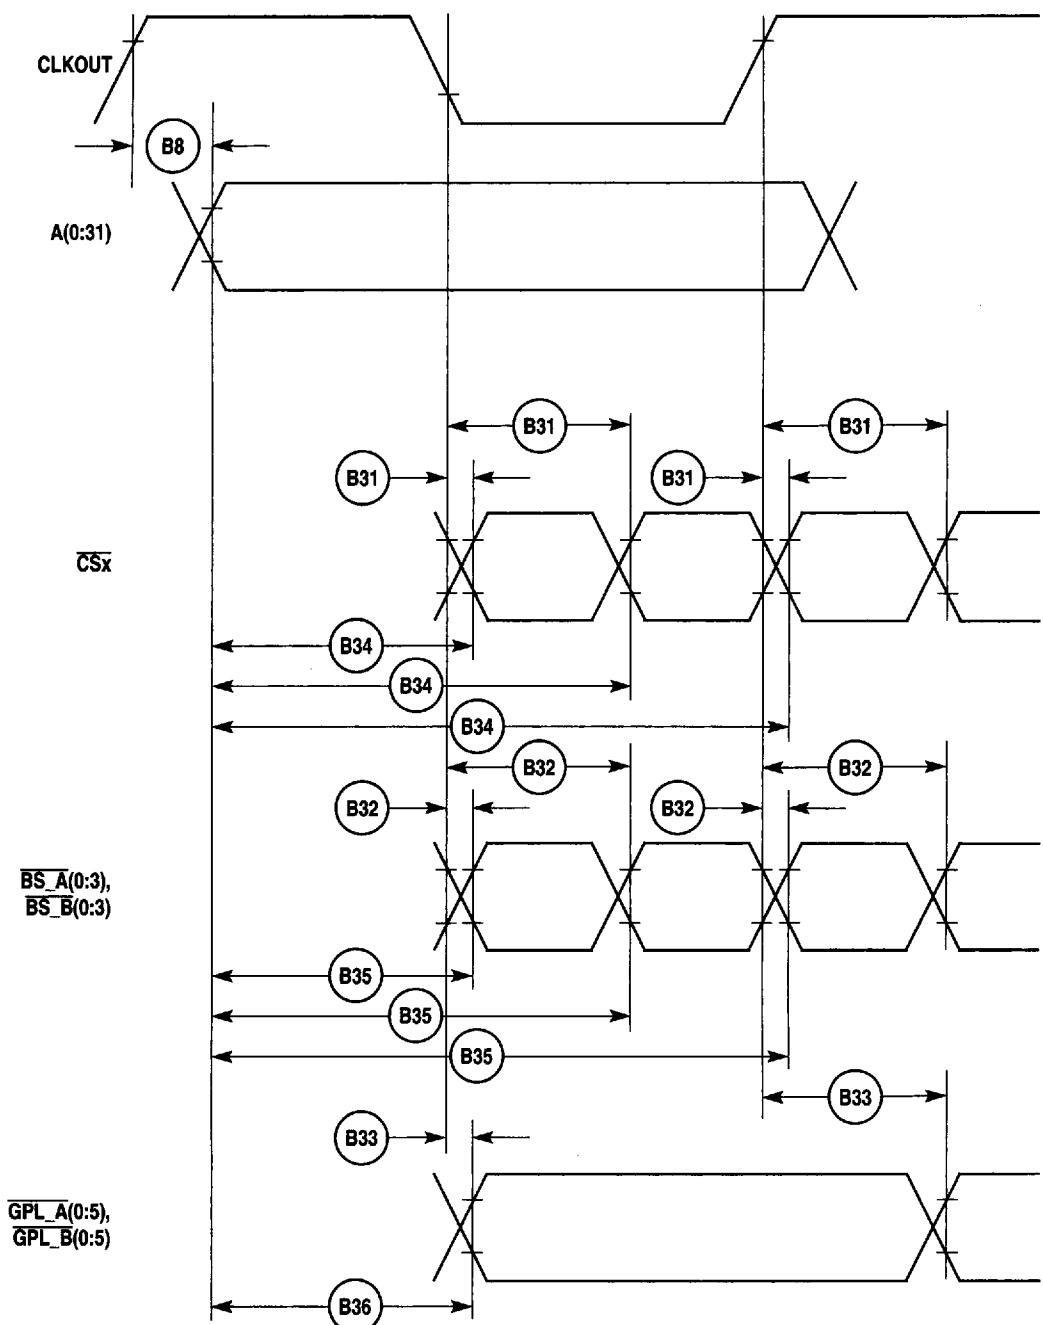

Figure 20-15. External Bus Timing Diagram
7. The signal UPWAIT is considered asynchronous to the CLKOUT and synchronized internally. The timings specified in B37 and B38 are specified to enable the freeze of the UPM output signals as described in Figure 20-15.